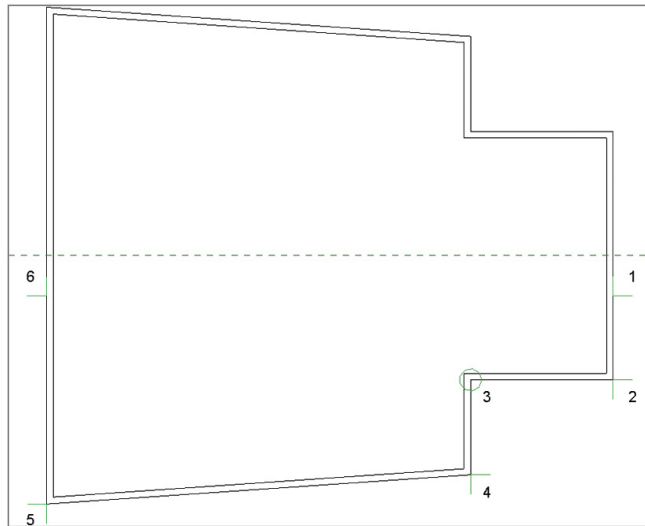

FIGURE 1.14 Use the Trim/Extend To Corner tool to complete the perimeter walls.
4. Again from the Modify tab in the ribbon, click the Trim/Extend To Corner tool. In the plan view, pick each of the north-south walls and then the respective wall that was mirrored in the previous step. The resulting closed perimeter wall should look like the image in Figure 1.14.